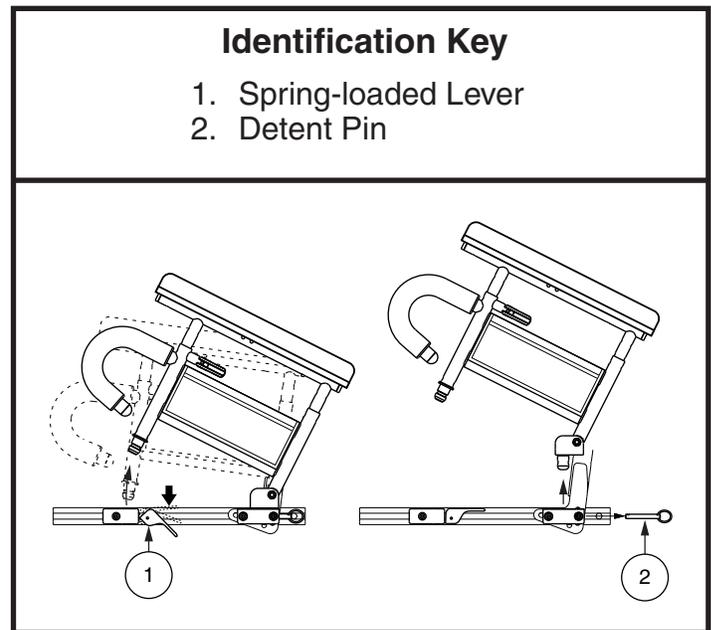

Figure 11. Two Post Armrest Removal and Installation
The height adjustment range for the Two Post Armrest is 9-13 in. (22.86-33.02 cm) in 1-in. (2.54-cm) increments. This range is measured from the top of the seat rail to the top of the armpad. You can also flip the armrests or remove them for transfer. **See figure 11.**
1. Push the spring-loaded lever downward and pull up on the front of the armrest. **See figure 11.**
2. Remove the detent pin from the back of the seat. **See figure 11.**
1. Set the rear of the armrest into the rear seat receiver and install the detent pin. **See figure 11.**